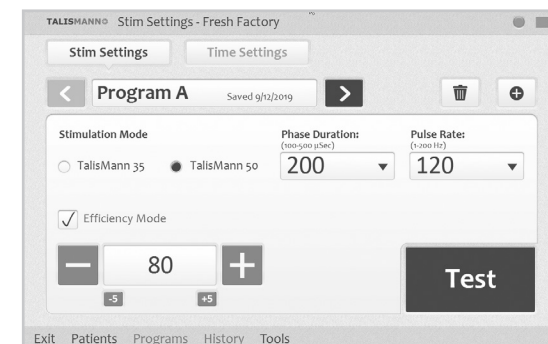

Figure 9-6: Stim Settings window
2. From the Patients List, select a patient and press "Open". The Stim Settings window will open. See Figure 9-6.